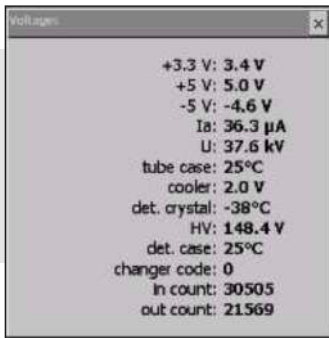

Fig.48. The test voltages
- Current input and output count rates in the digital processor (fig.48).